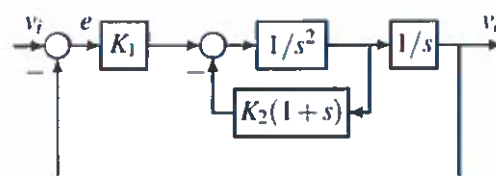

Figure 1.2
- b) Figure 1.2 below illustrates an aircraft's autopilot where K_1 and K_2 are design parameters.